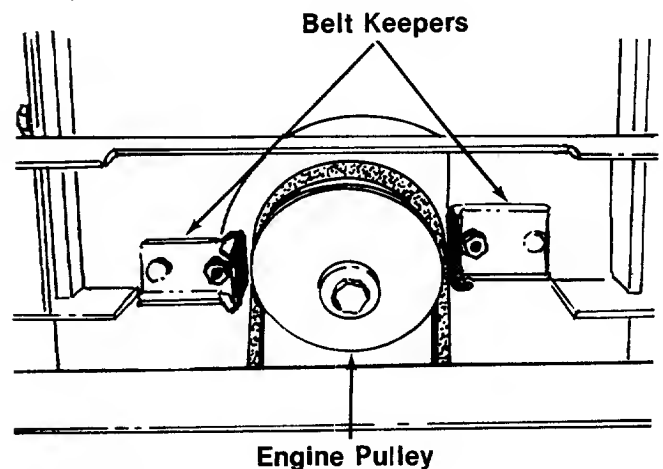

FIGURE 16.
2. Remove the belt keeper from each side of the engine pulley. See figure 16.